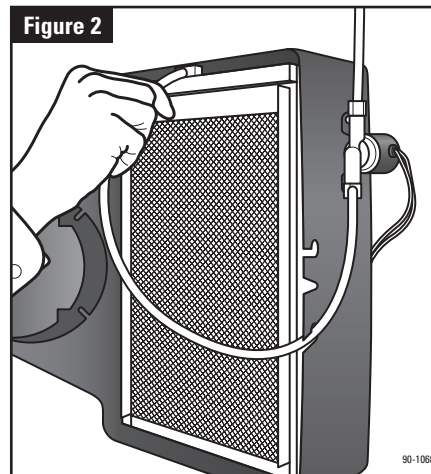

Figure 2
**6.** Reinstall the evaporative assembly back into the base, with the bottom of the scale control insert (6) sitting firmly in the inside of the drain spud (9). Push the feed tube back into the water distribution tray. (See Figure 2) Put the front cover back on. If the nameplate (11) is upside down, remove it by gently squeezing the tabs of the nameplate from inside the cover and pushing out. Rotate the nameplate so it is right side up, and snap back into place. Turn damper handle (8) to the open position "WINTER" for the heating season, or closed position "SUMMER" for the cooling season.